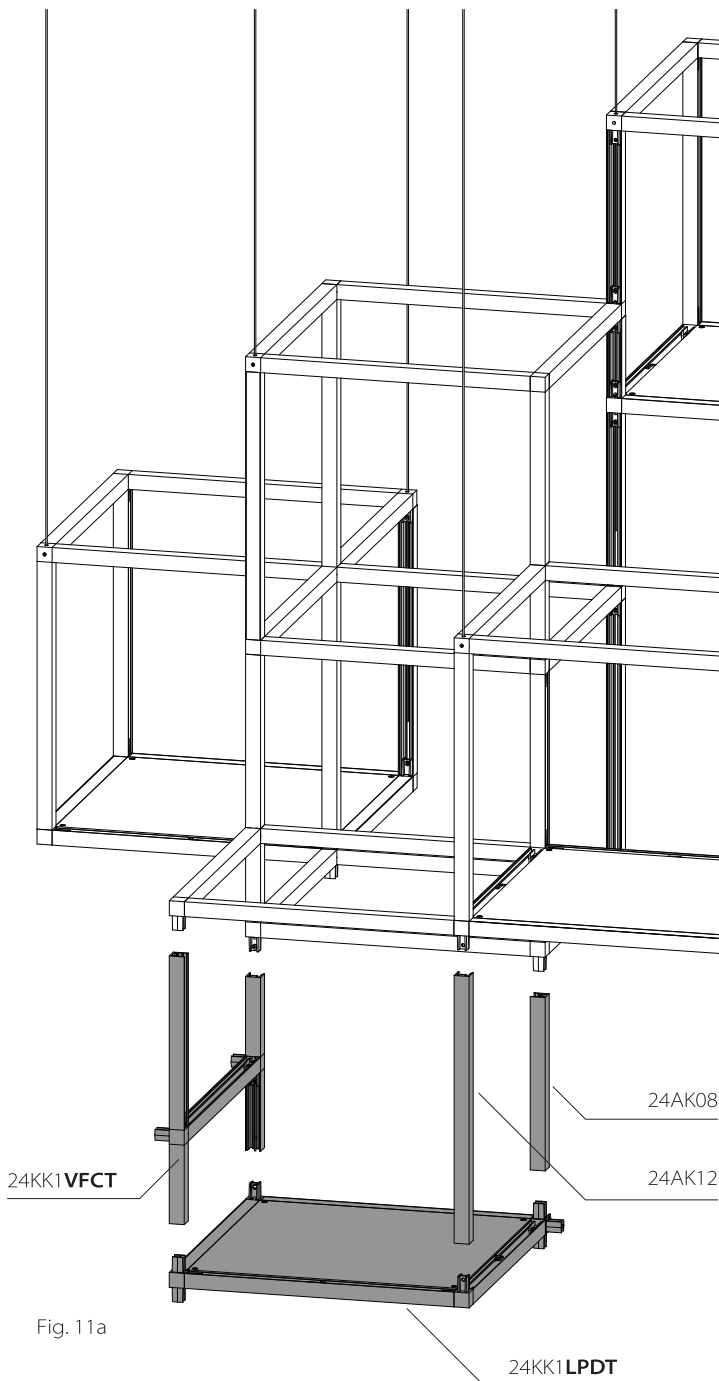

Fig. 11a
- 9a. Install 24KK1VFCT, (1x) 24AK12, and (1x) 24AK08 to 24KK1LPDT in the orientation shown in Fig. 11a and install the assembly to 24KK1HFBT, 24KK1HFDT, and 24KK1LPCT as shown in Fig. 11a.